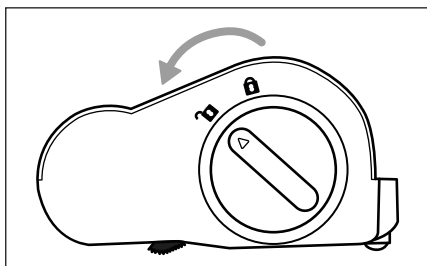

Fig. 22
- 2) Unlock the rotary brush **19** by turning the rotary brush release **18** towards the symbol **19** (open) (see Fig. 22).